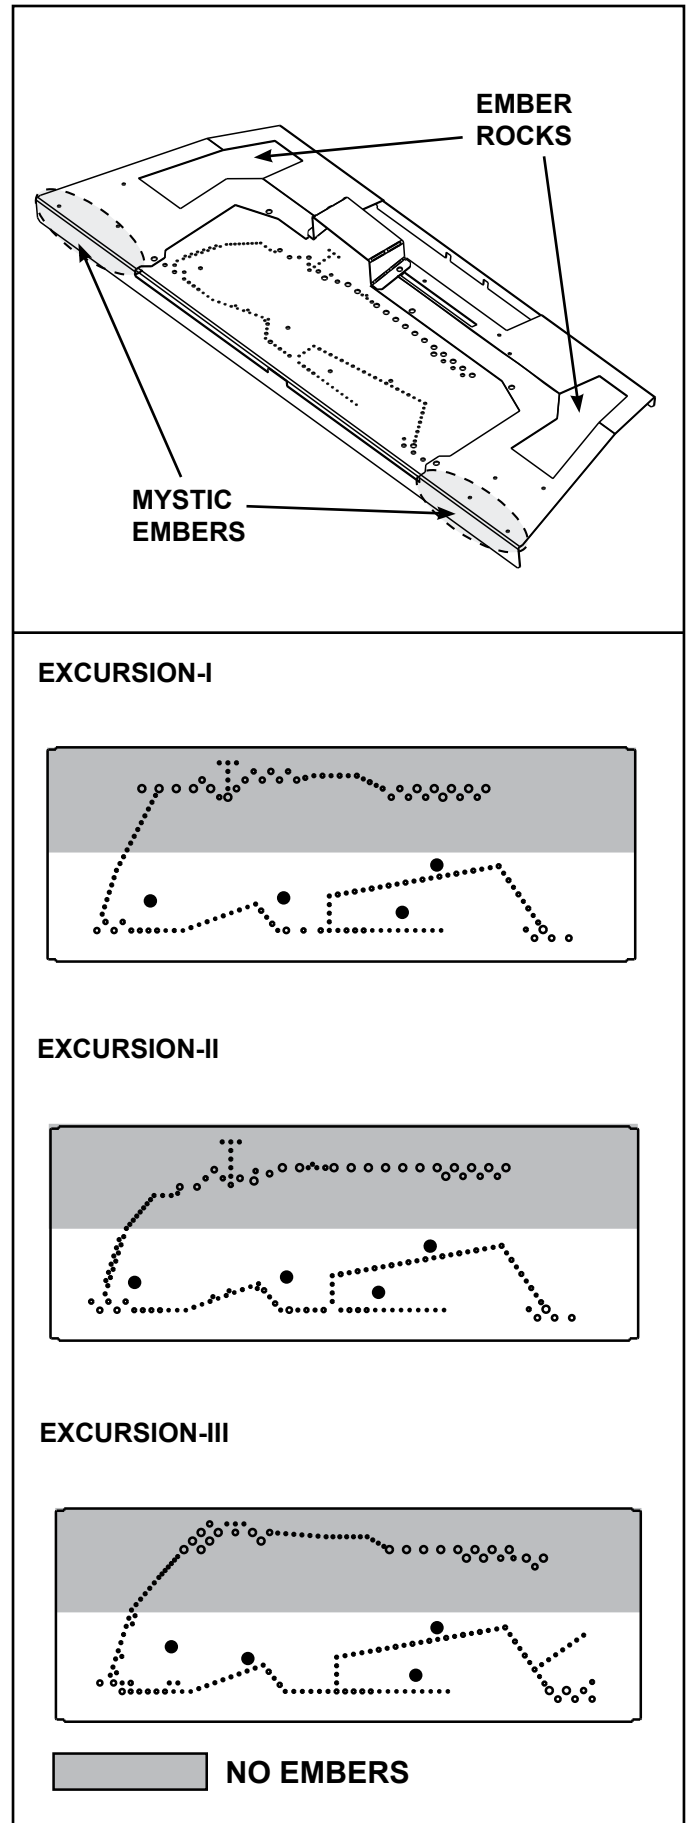

Figure 9.6 Placement of Embers
- Use mystic embers to mask transition between base refractory and base pan. See Figure 9.6.
- Embers CANNOT be placed directly over burner ports that are indicated in Figure 9.6 or in pilot area as indicated in Figure 9.6.
- Embers may be placed on the ports in areas indicated in Figure 9.6. These embers must be placed loosely over the port holes, not pressed down on or into the holes. Create a single layer, no more than 1/4 inch thick.